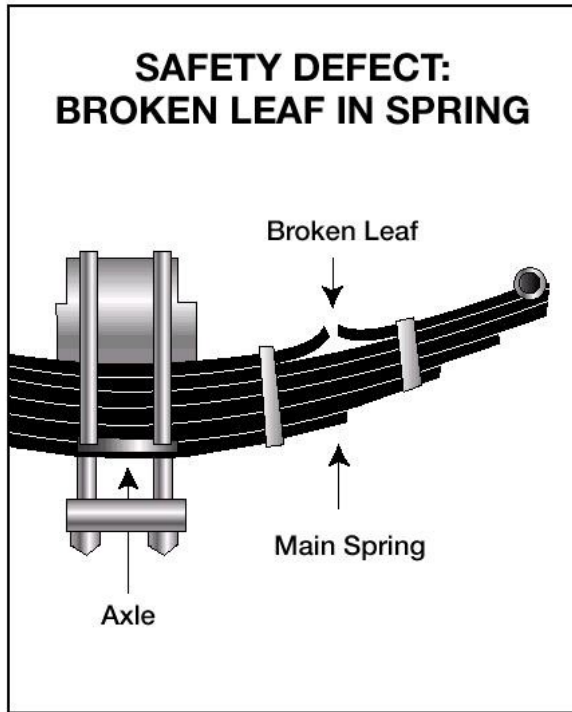

Figure 2.3
- Missing or broken leaves in any leaf spring. If one-fourth or more are missing, it will put the vehicle "out of service", but any defect could be dangerous. **See Figure 2.3.**